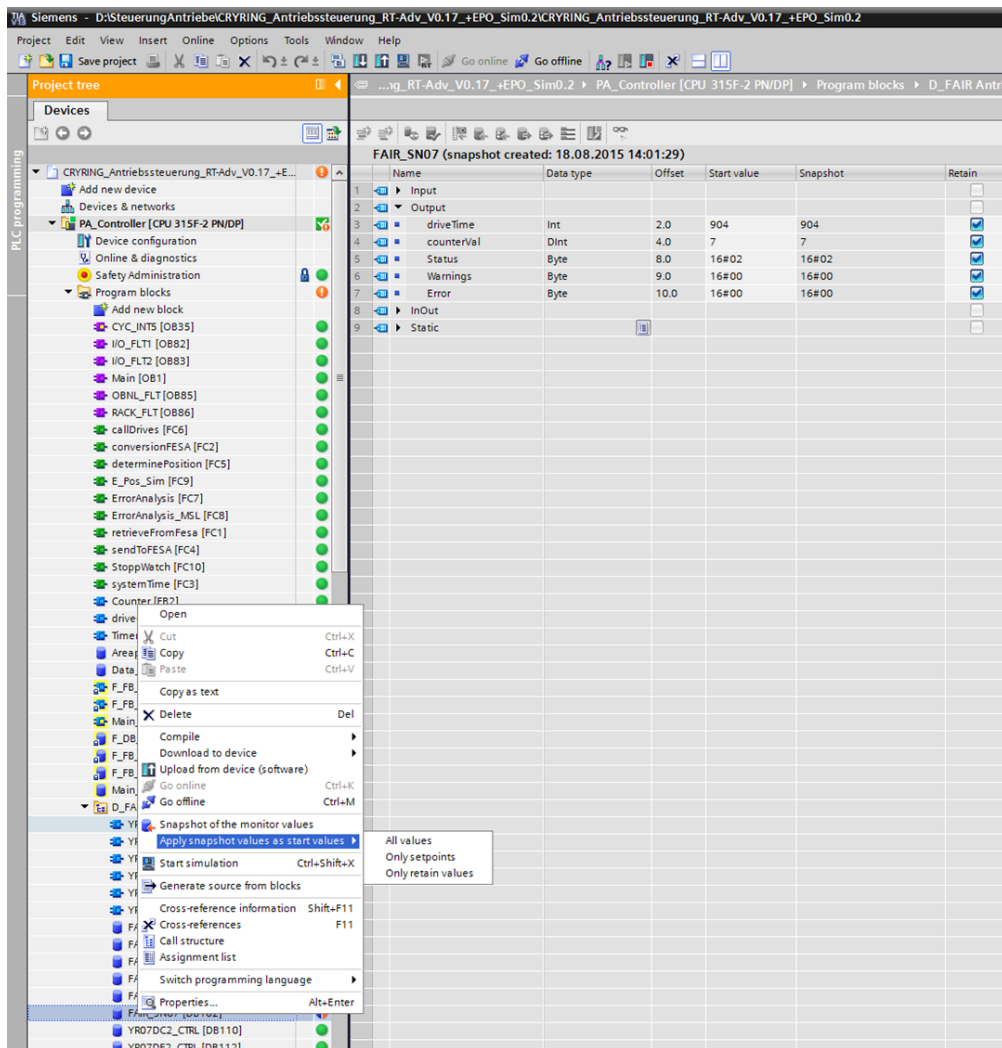

Figure 2: Apply the snapshot values of the DB as start values
4. Right click again → Apply snapshot values as start values → All values (Figure 2).